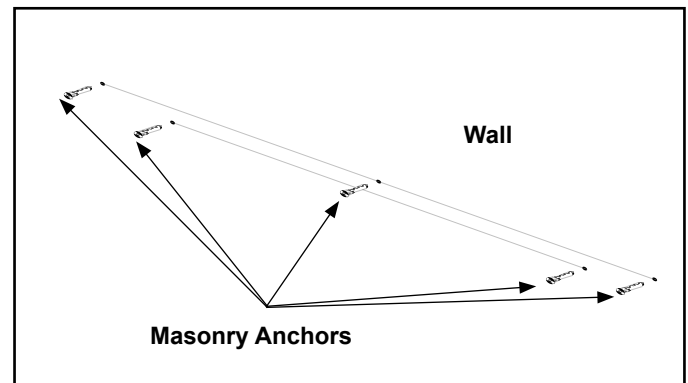

Figure 4.6 Masonry Anchor Placement
- In the marked locations, drill 5/16 in. diameter x 2 in. deep holes. See Figure 4.6.